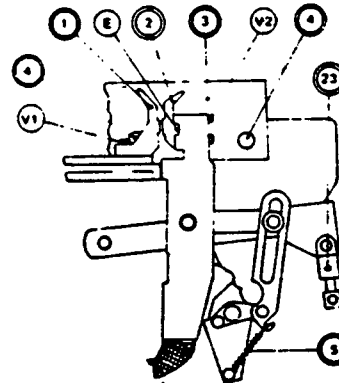

Fig. 6
3. Poles (Fig. 6)
Close breaker and check gap setting of arcing horns. If gap exceeds 1.5mm (0.059 inches), adjust arcing contacts by loosening bolt #V1 (Fig. 6) setting gap to $0.9\text{mm} \pm 0.1\text{mm}$ (0.035 ± 0.004 inches) and tightening bolt by torquing to 0.8mm-kG. (5.8 lb. ft.). Remove both fixed and movable arcing horns along with insulating barriers when thickness of arcing pads erodes to approximately 0.5mm (0.020 inches).